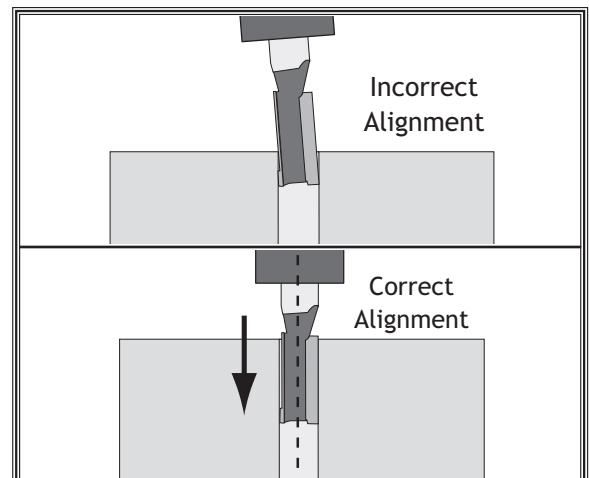

Figure 14. Checking linear alignment by lowering router bit into the hole.
8. Lower the router bit into the hole to check for linear alignment (see **Figure 14**).